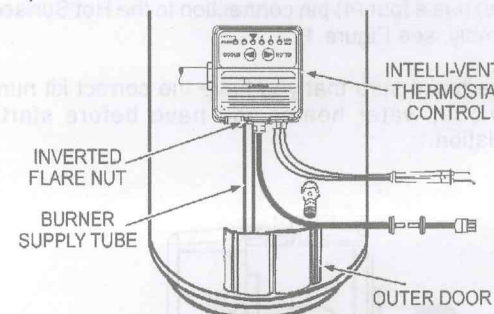

FIGURE 3.
4. Using a 3/4 inch open-end wrench, disconnect the burner tube's inverted flare nut, which is threaded into the Intelli-vent™ Thermostat Control, (184768 Series), see Figure 3.
5. Remove the outer and inner doors from the water heater, see Figures 3 and 4. Note: The doors may be different than those pictured.